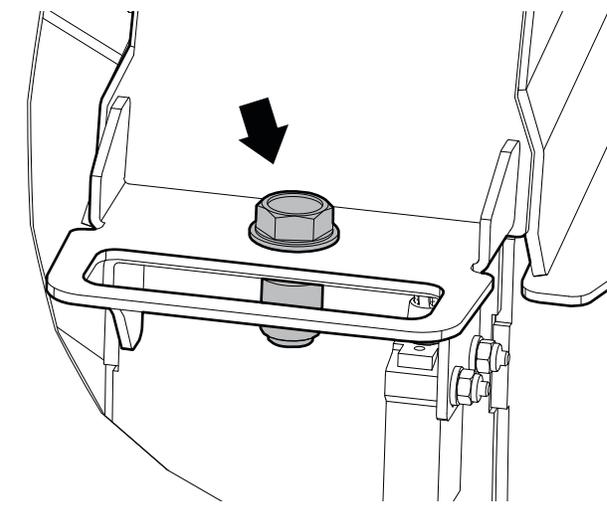

Figure 22—Upper-rotor-housing fastener
2. Remove the upper-rotor-housing fastener, and then open the upper rotor housing. See *Figure 22*.
9. Install the upper-rotor-housing fastener. See *Figure 22*.
2. Remove the upper-rotor-housing fastener. See *Figure 22 on page 38*.
5. Install the upper-rotor-housing fastener. See *Figure 22 on page 38*.